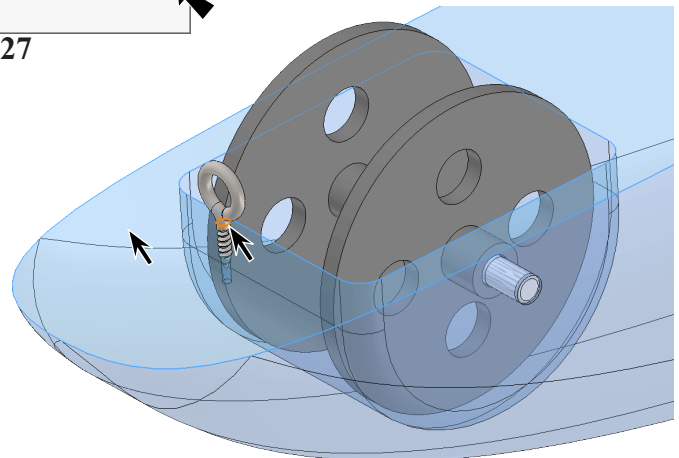

Fig. 28
Step 5. Click **bottom face of the Body** and **circular edge of the Eye Screw**, Fig. 28.